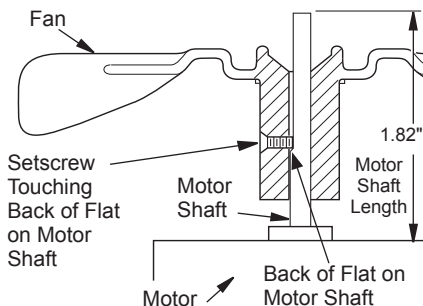

Figure 9 - Fan Cross Section
2. The fan is located with the set screw in contact with the back of flat on motor as shown in Figure 9.